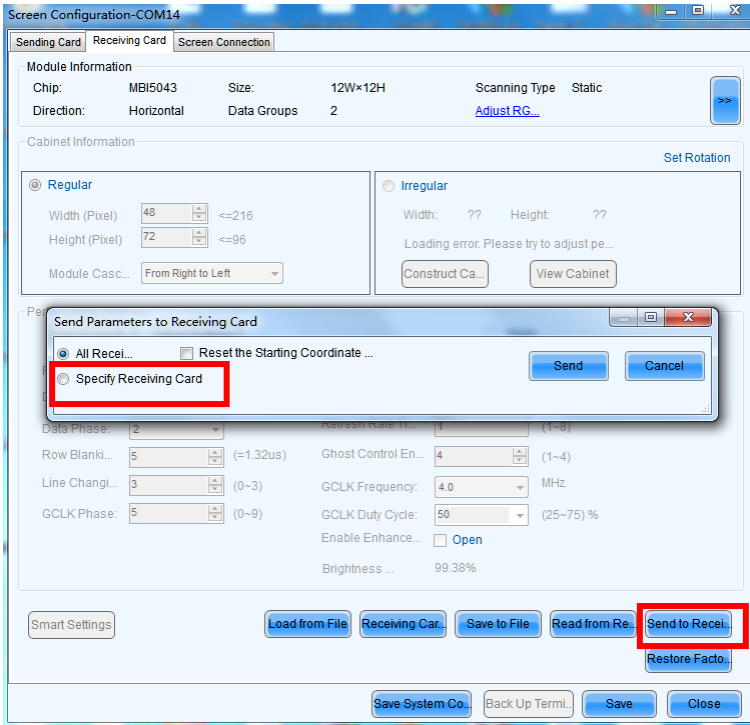

Figure A-4
d) Then click “Send to Recei...”. And select “Specific Receiving Card”. (Figure A-4).